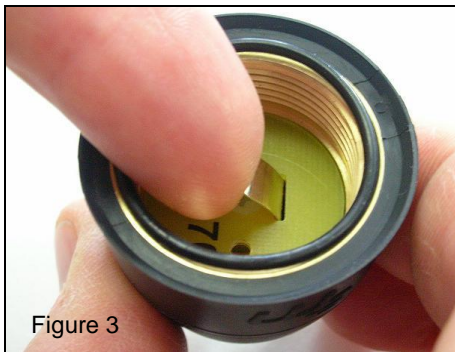

Figure 3
4. Tuning and Installation (Figure 3):
- Verify contact spring is completely extended. If necessary, adjust by pulling the contact outward. (Figure 3).